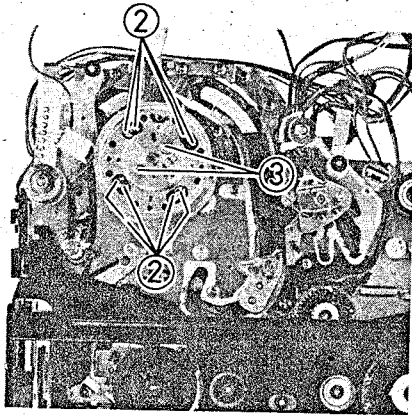

Fig. 2-54 Video Head (Upper Cylinder) Removal
2. Unsolder eight (8) leads on the video head (upper cylinder). (See Fig. 2-54)
3. Remove two (2) screws and pull out the video head (upper cylinder).